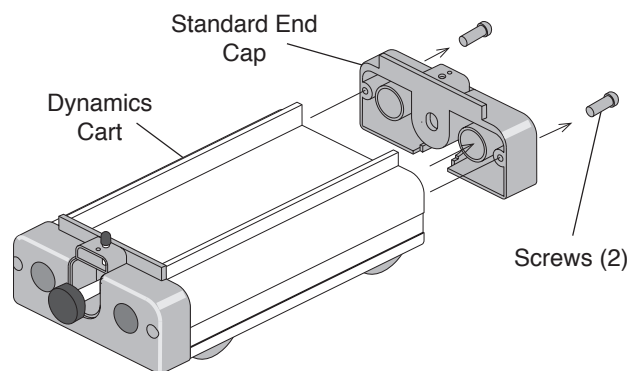

Figure 1 End Cap Removal
- ① Remove the end cap (that does not have a plunger) from your Dynamics Cart. See Figure 1.